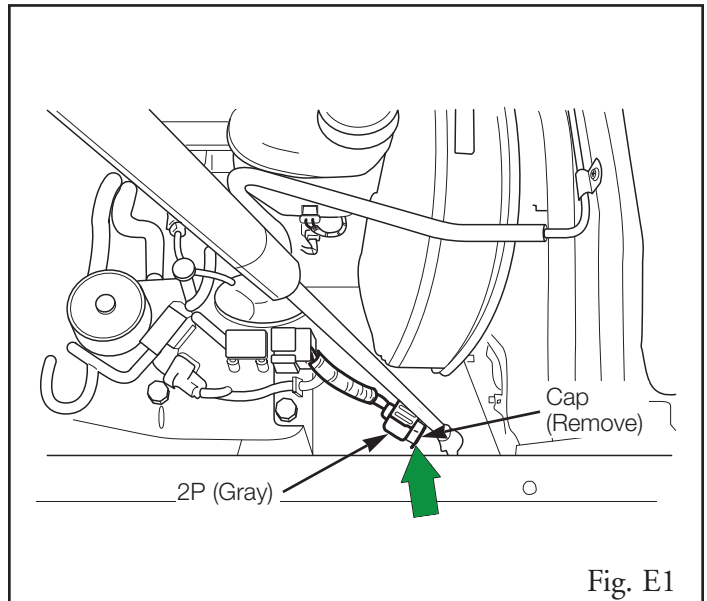

Fig. E1
1. Locate the vehicle harness' gray 2P connector in the back corner on the driver's side of the engine compartment. (Fig. E1)
- i. Remove and discard the protective cap. (Fig. E1)